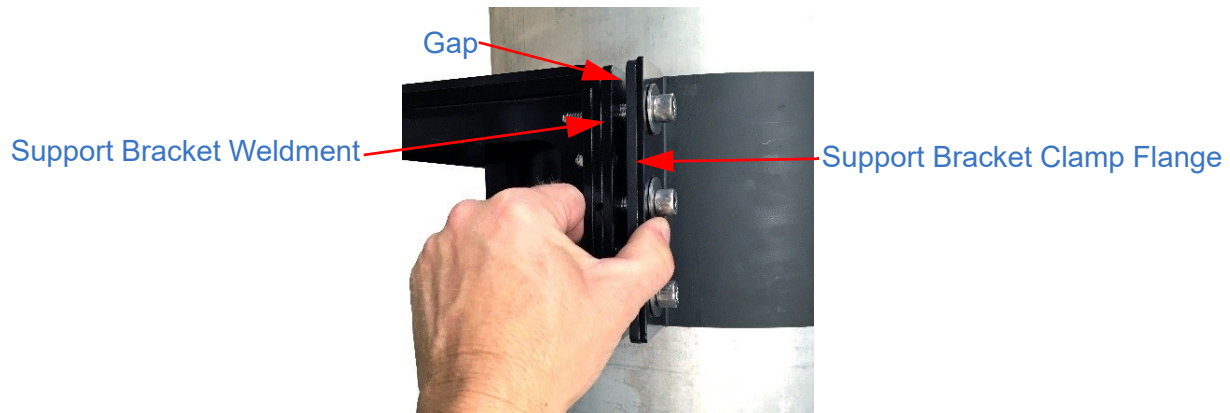

Figure 5-8 Press the Support Bracket Clamp Flange Towards the Bracket Weldment
- e. Press with your hand against the left support bracket clamp flange and push it towards the support bracket weldment (Figure 5-8). Looking at the gap between the support bracket weldment and the support bracket clamp, estimate how many of the shims can fit in the gap while allowing the external support bracket to snugly secured to the mast, but without bending the support bracket clamp.